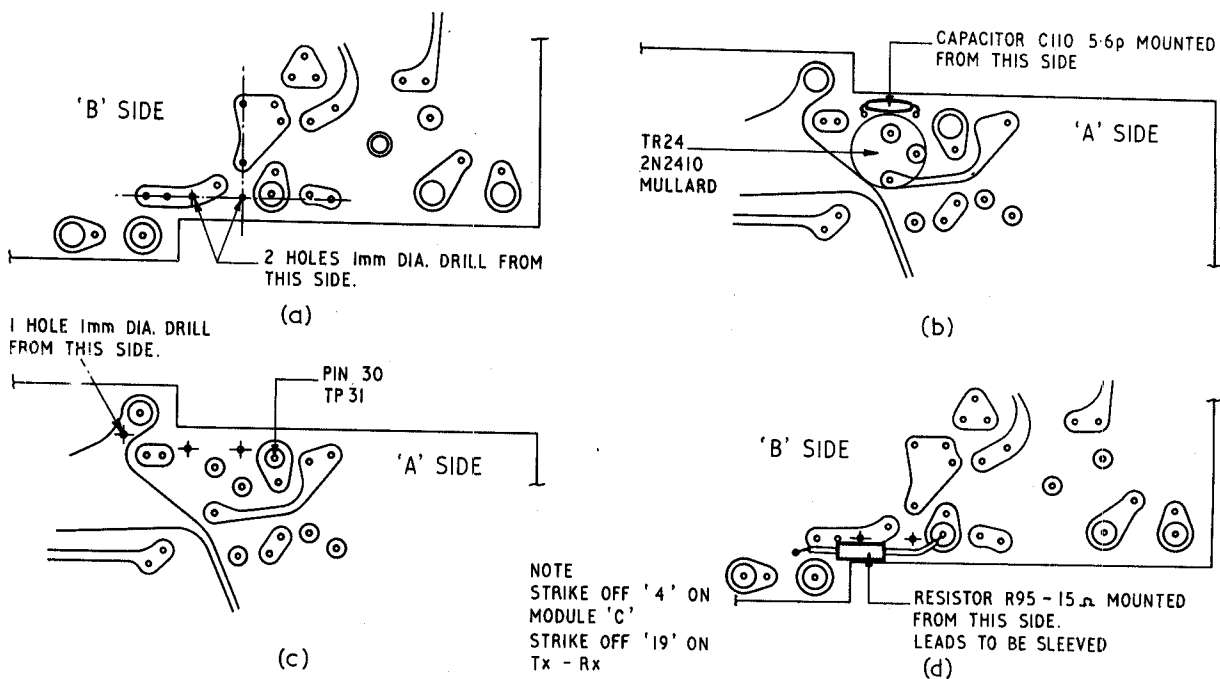

Fig 2 - Audio board assembly (printed circuit)
- (7) Connect the 5.6pF capacitor as shown in Fig 2.b.
- (8) Connect the 15Ω resistor as shown in Fig 2.d.
- (9) Connect the new TR24 2N2410 along with the mounting pad removed in (4).
- (10) Replace the module and secure.
- (11) Re-solder all leads.